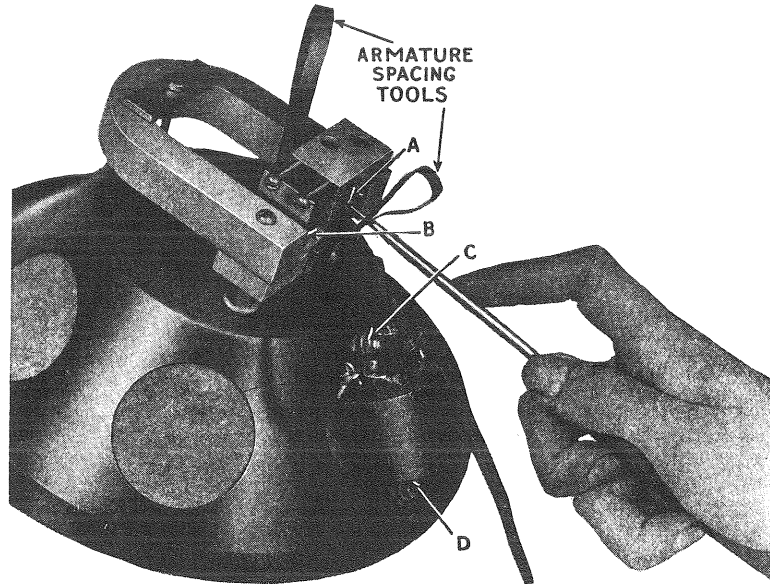
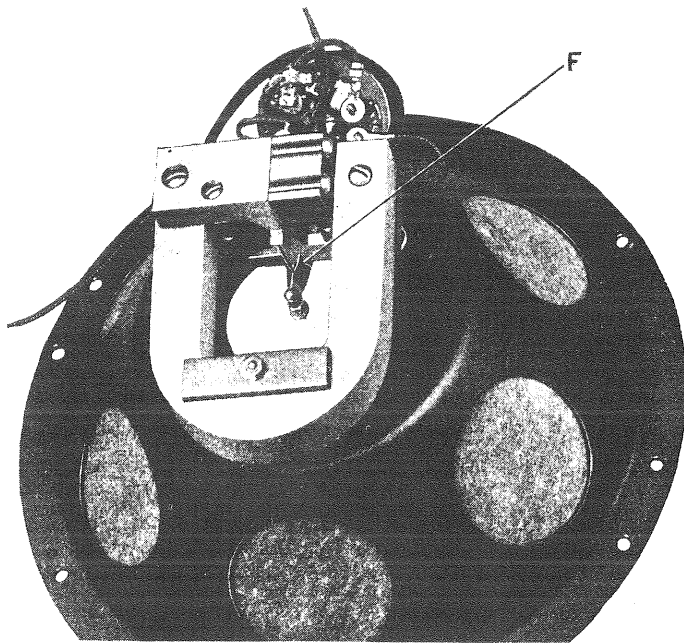
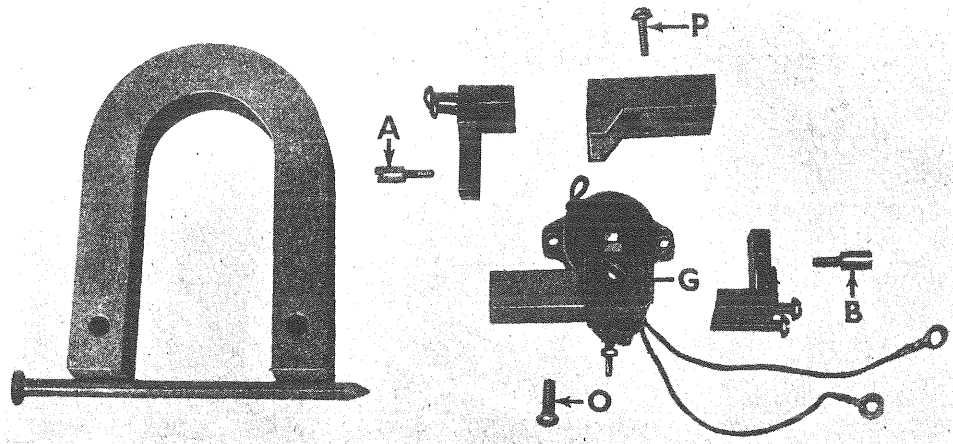
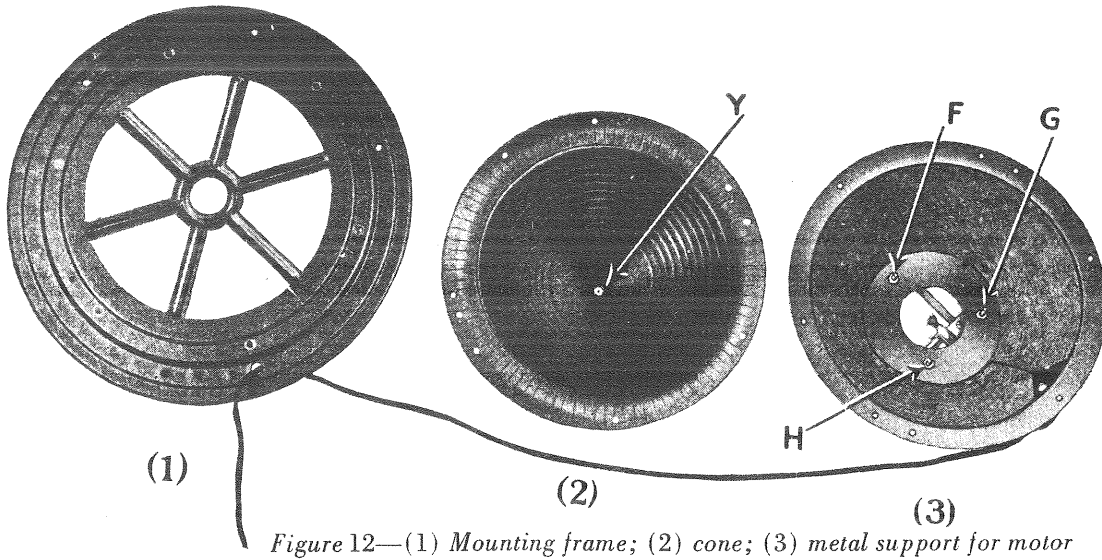

Figure 7—The use of the spacing tools in adjusting the armature
Figure 8—Drive-pin thrust-lever soldered connection (F)
Figure 9—Motor mechanism partly exploded
Figure 12—(1) Mounting frame; (2) cone; (3) metal support for motor
Two of these tools are necessary when adjusting the armature. Place one tool in the space between the armature and pole pieces of the motor mechanism at the end next to the filter unit. This is shown in Figure 7. The other tool is placed at the other end of the armature a little to one side in order to clear the drive pin located at this end of the armature. By loosening the two screws A and B, Figure 7, any tension in either direction, that may have been on the armature is released, and the spacer tools will provide the correct clearance or spacing. Now while the spacer tools are in place apply a hot soldering iron to the drive pin thrust lever connection point F, Figure 8, and heat the solder sufficiently to allow the drive pin to find its normal position with regard to the thrust lever. The iron is then removed, screws A and B are tightened and the spacer tools removed. This adjustment correctly aligns and balances the armature so that no abnormal strain is imposed upon it in any direction.
Rattle and noisy reception are sometimes caused by a loose thrust lever. To correct this condition tighten the thrust lever mounting clamps by means of screw G, Figure 9. Sometimes when this is done a readjustment of the armature as described in Part I, Section 4 may be necessary. Any loose screw or nut in the motor mechanism may cause an audible rattle when the speaker is in operation. If any trouble is experienced along this line all the screws and nuts in the motor mechanism should be gone over and the loose ones tightened.
- (c) Remove the cone by removing six bolts and nuts around the edge and the cone center nut located at Y, Figure 12.
- (d) The motor mechanism may now be removed by removing nuts F, G, H, Figure 12. The magnet coil leads must be unsoldered before the motor can be cleared of the frame. Place a large nail or soft iron bar across the poles of the permanent magnet to act as a keeper (See Figure 9).
- (e) Remove the thrust lever supporting screw G, Figure 9, and apply a hot soldering iron to the thrust lever armature drive pin connection point F, Figure 8. The thrust lever and driving rod may now be removed.
- (f) Disassemble the motor mechanism by removing screw O, Figure 9, and the corresponding screw on the other side of the mechanism. Also remove screws A and B, Figure 9. The magnet coils may now be removed by slipping one off the armature and the other off the armature and drive pin.
- (e) Place spacer tools in position to adjust the armature and tighten screws A and B, Figure 7.
- (c) Remove the filter unit mounting nuts and washers C and D, Figure 7. The unit may now be removed and replaced by a new one.